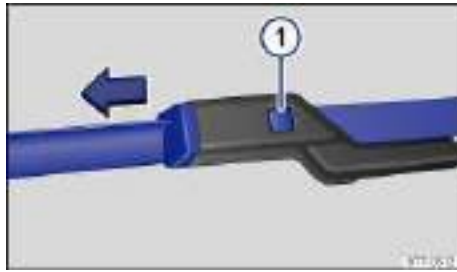

Fig. 173 Changing the windshield wiper blades.
- Press and hold the release button ⇒ fig. 173 \(1\).